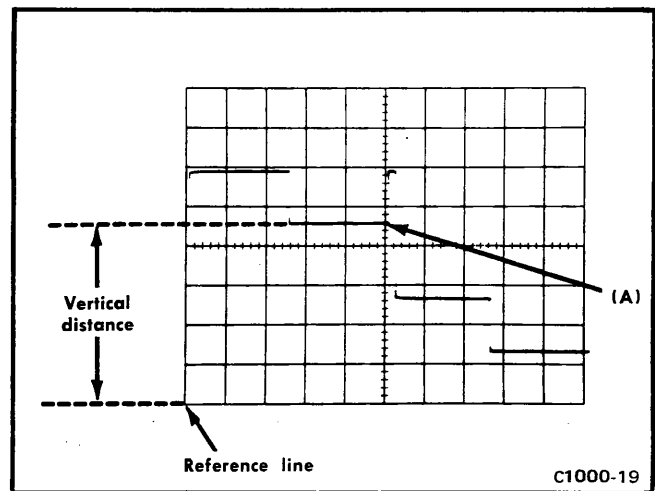

Figure 1-3. Measuring instantaneous dc voltage with respect to a reference voltage.
4. Measure the distance in divisions between the reference line and the point on the waveform at which the dc level is to be measured. For example, in Figure 1-3 the measurement is made between the reference line and point A.